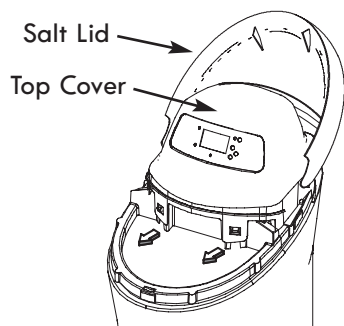

Figure 5
4. Remove the top cover. Pull outward on the two tabs to release top cover (see Fig. 5). The salt lid remains attached to the top cover when removed. Set both covers aside so they will not get scratched or broken.